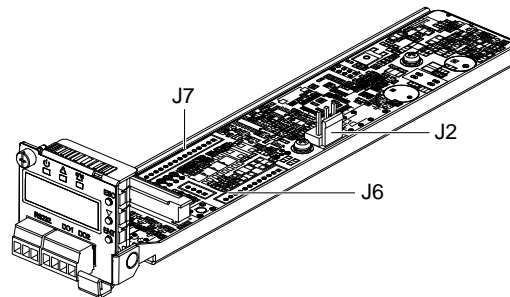

Figure 4-3 M225S Controller replacement (2)
- Pull out the controller unit slowly until the J2 terminal is completely exposed, and pull out the connected terminals from J2, J6, J7 carefully and do insulation respectively. (as shown in Figure 4-3).